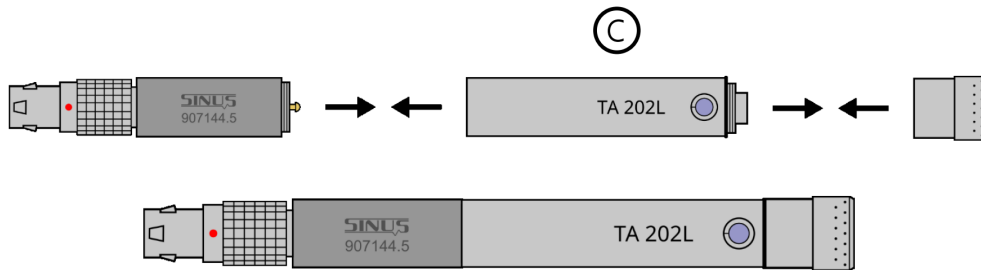

Figure 3.4: TA202L mounting between pre-amplifier and capsule
Next, insert the **TA 202L (C)** dry adapter between the components that are currently separated (figure 3.4). Check whether the black sealing ring of the dry adapter is still correctly located on the thread root.